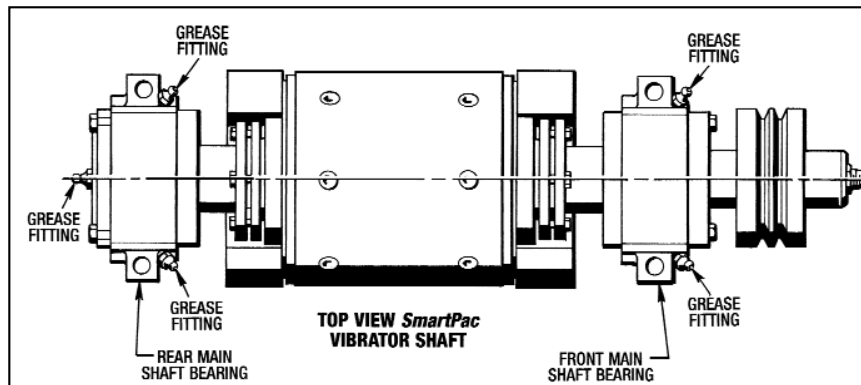

Figure 5.1 - Main Shaft Bearing Lubrication
15. Lubricate each Main Shaft Bearing Housing every 8 hours with 1 fluid ounce of NLGI Rated Synthetic, Grade 2 Extreme Pressure Grease. See *Figure 5.1* for location of grease fittings.
(See Figure 5.1)